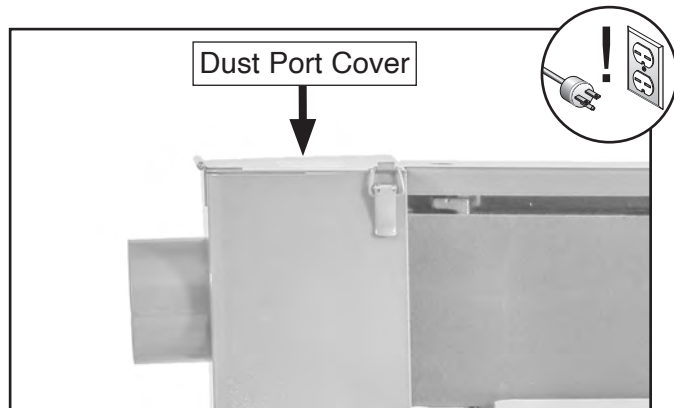

Figure 55. Location of dust port cover.
2. Unlatch and open dust port cover shown in **Figure 55**.